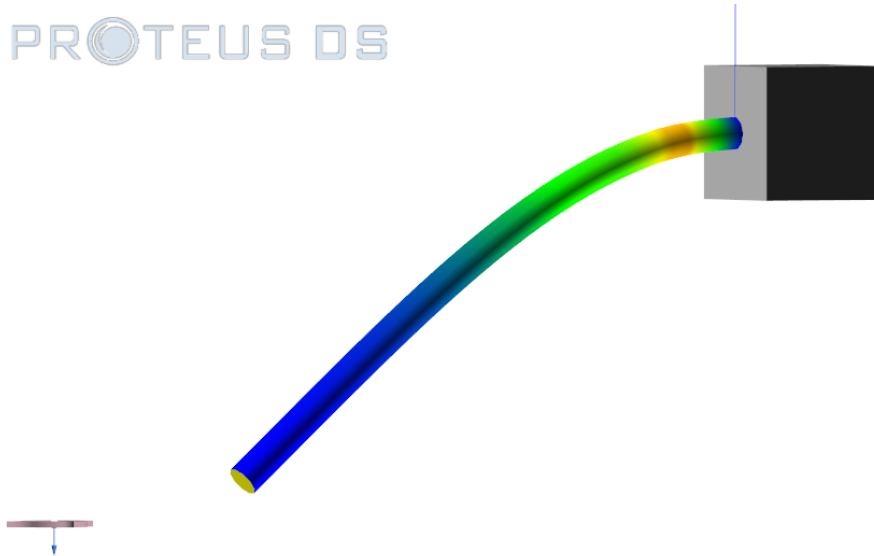

Figure 49: Clamped cable
- ✦ To examine the bending radius, select 'Stress (Flexural)' as the plotted variable (as shown in Figure 49).